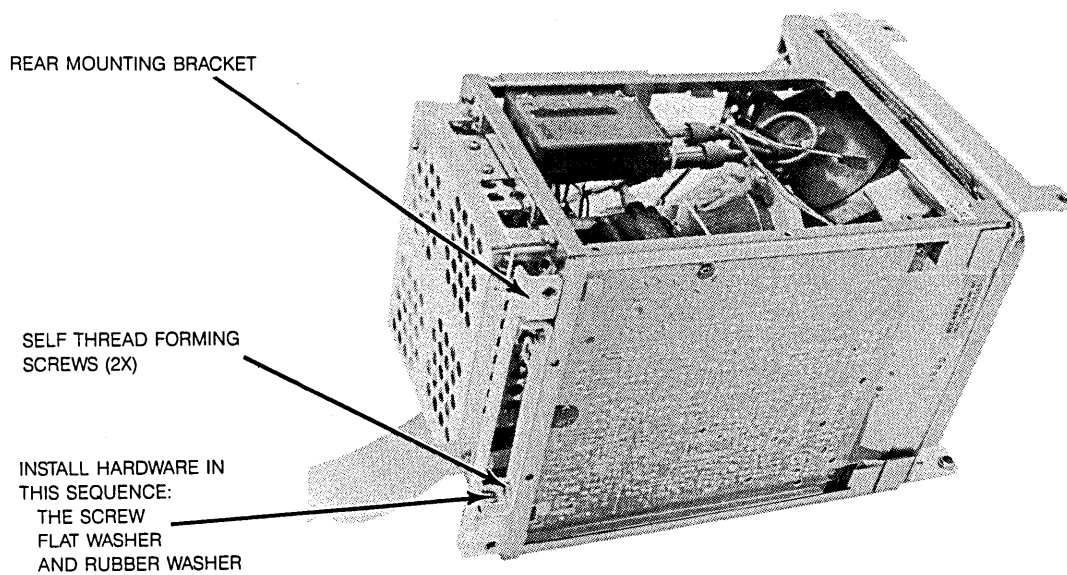

Figure 6-46. Color Module Rear Mounting Bracket Assembly
- o. Set display module on its bottom side with rear panel facing you. Attach rear mounting bracket to the module. Use the two thread forming screws (see figure 6-46). Do not tighten to more than 18 in/lbs or you will damage the module frame.